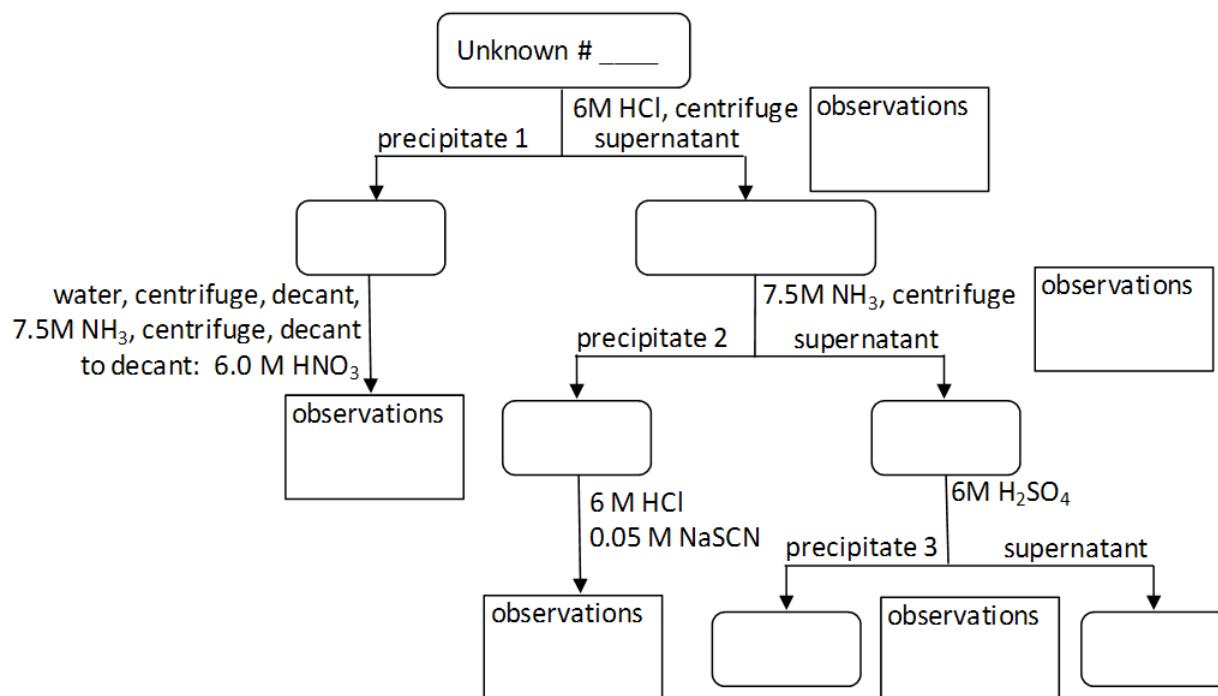

Figure 2: Qualitative Separation Scheme Template for Unknown Mixture
Note: As you work, document observations regarding the color of precipitates and solutions in the Figure 2 Qualitative Separation Scheme on your lab worksheet. Compare the observations from Parts B and C to assist in identifying the components of the unknown mixture in Part C.
- 1 Add nine drops of an unknown solution into a clean test tube. Enter your unknown number at the top of the Figure 2 Qualitative Separation Scheme on the lab data sheet.
- 2 Repeat steps 2-12 from Part B, documenting your observations as you work in Figure 2 found in the lab worksheet.